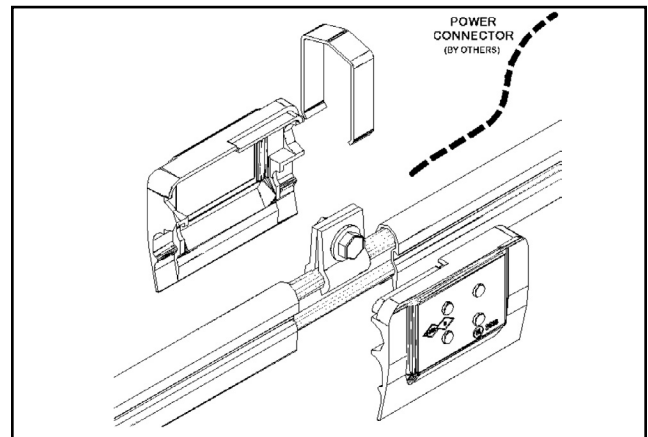

Figure 25-2
- When using large cables, be sure that the customer supplied connector is attached to the clamp in such a manner that it does not interfere with the powerfeed case. See **Figure 25-2**.